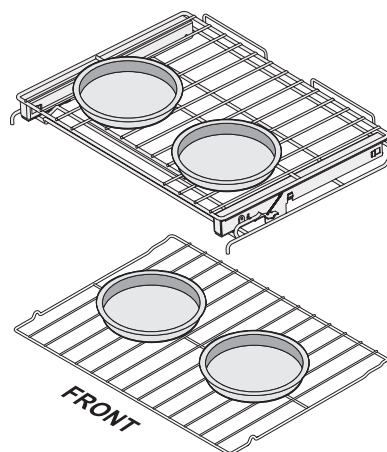

Figure 8: Pan spacing suggestion
- Always place the food in the center of the oven on rack position 3 (Figure 8). No Preheat is designed for baking on a single oven rack.